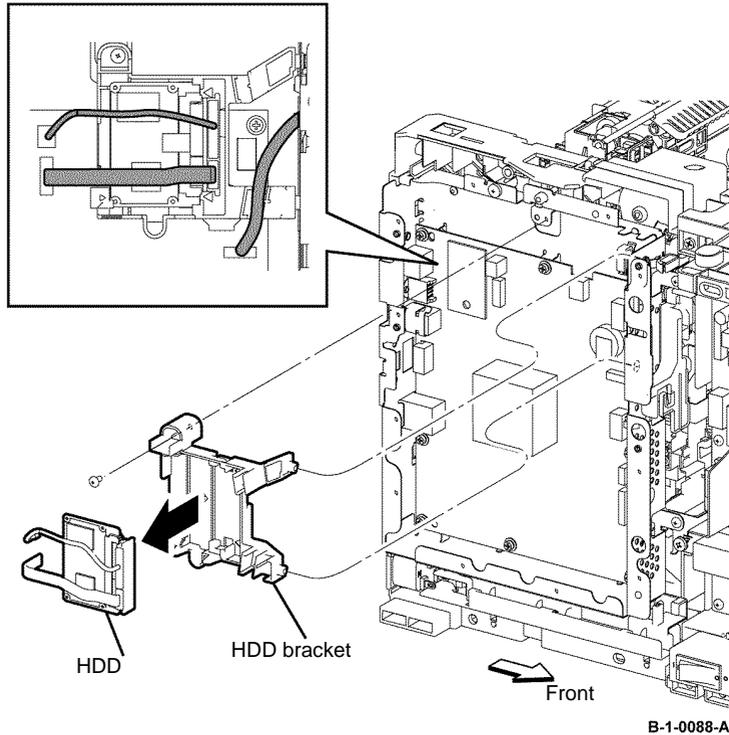

Figure 2 Optional HDD and bracket removal
13. Disengage P/J631, then release the harness from the HDD bracket, Figure 2.
14. Disengage P/J302 and P/J310, then remove the optional HDD, Figure 2.
15. Remove one screw (silver, M3, 6mm), then release the three bosses to remove the HDD bracket, Figure 2.